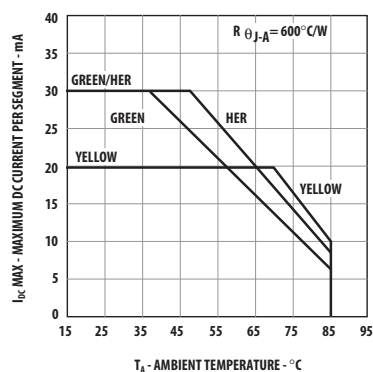

Figure 9. Maximum Allowable DC Current vs. Ambient Temperature.  $T_{JMAX} = 100^{\circ}\text{C}$ .
6. Derate maximum DC current for HER above  $T_A = 48^\circ\text{C}$  at 0.58 mA/°C, Yellow above  $T_A = 70^\circ\text{C}$  at 0.66 mA/°C, and Green above  $T_A = 37^\circ\text{C}$  at 0.48 mA/°C. See Figure 9.